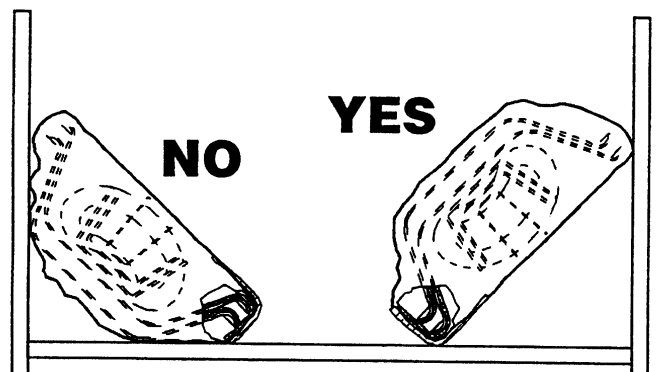

Figure 18.
- c. Basin sets should stand on edge, tilted for drainage (Figure 18).